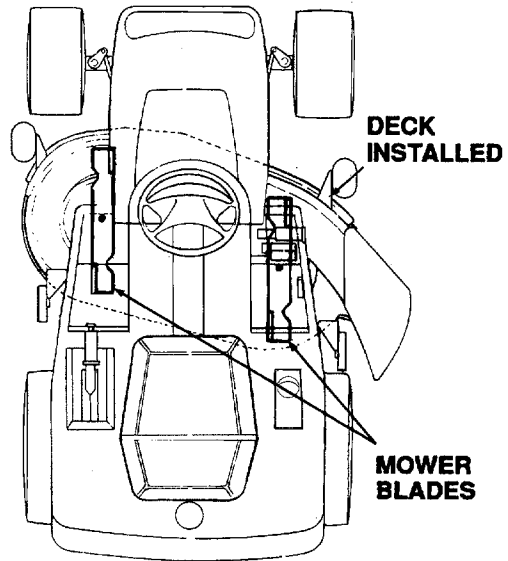

Figure 32
2. Position the mower blades so the ends of each blade point to the front and the rear of the tractor (Refer to Figure 32).